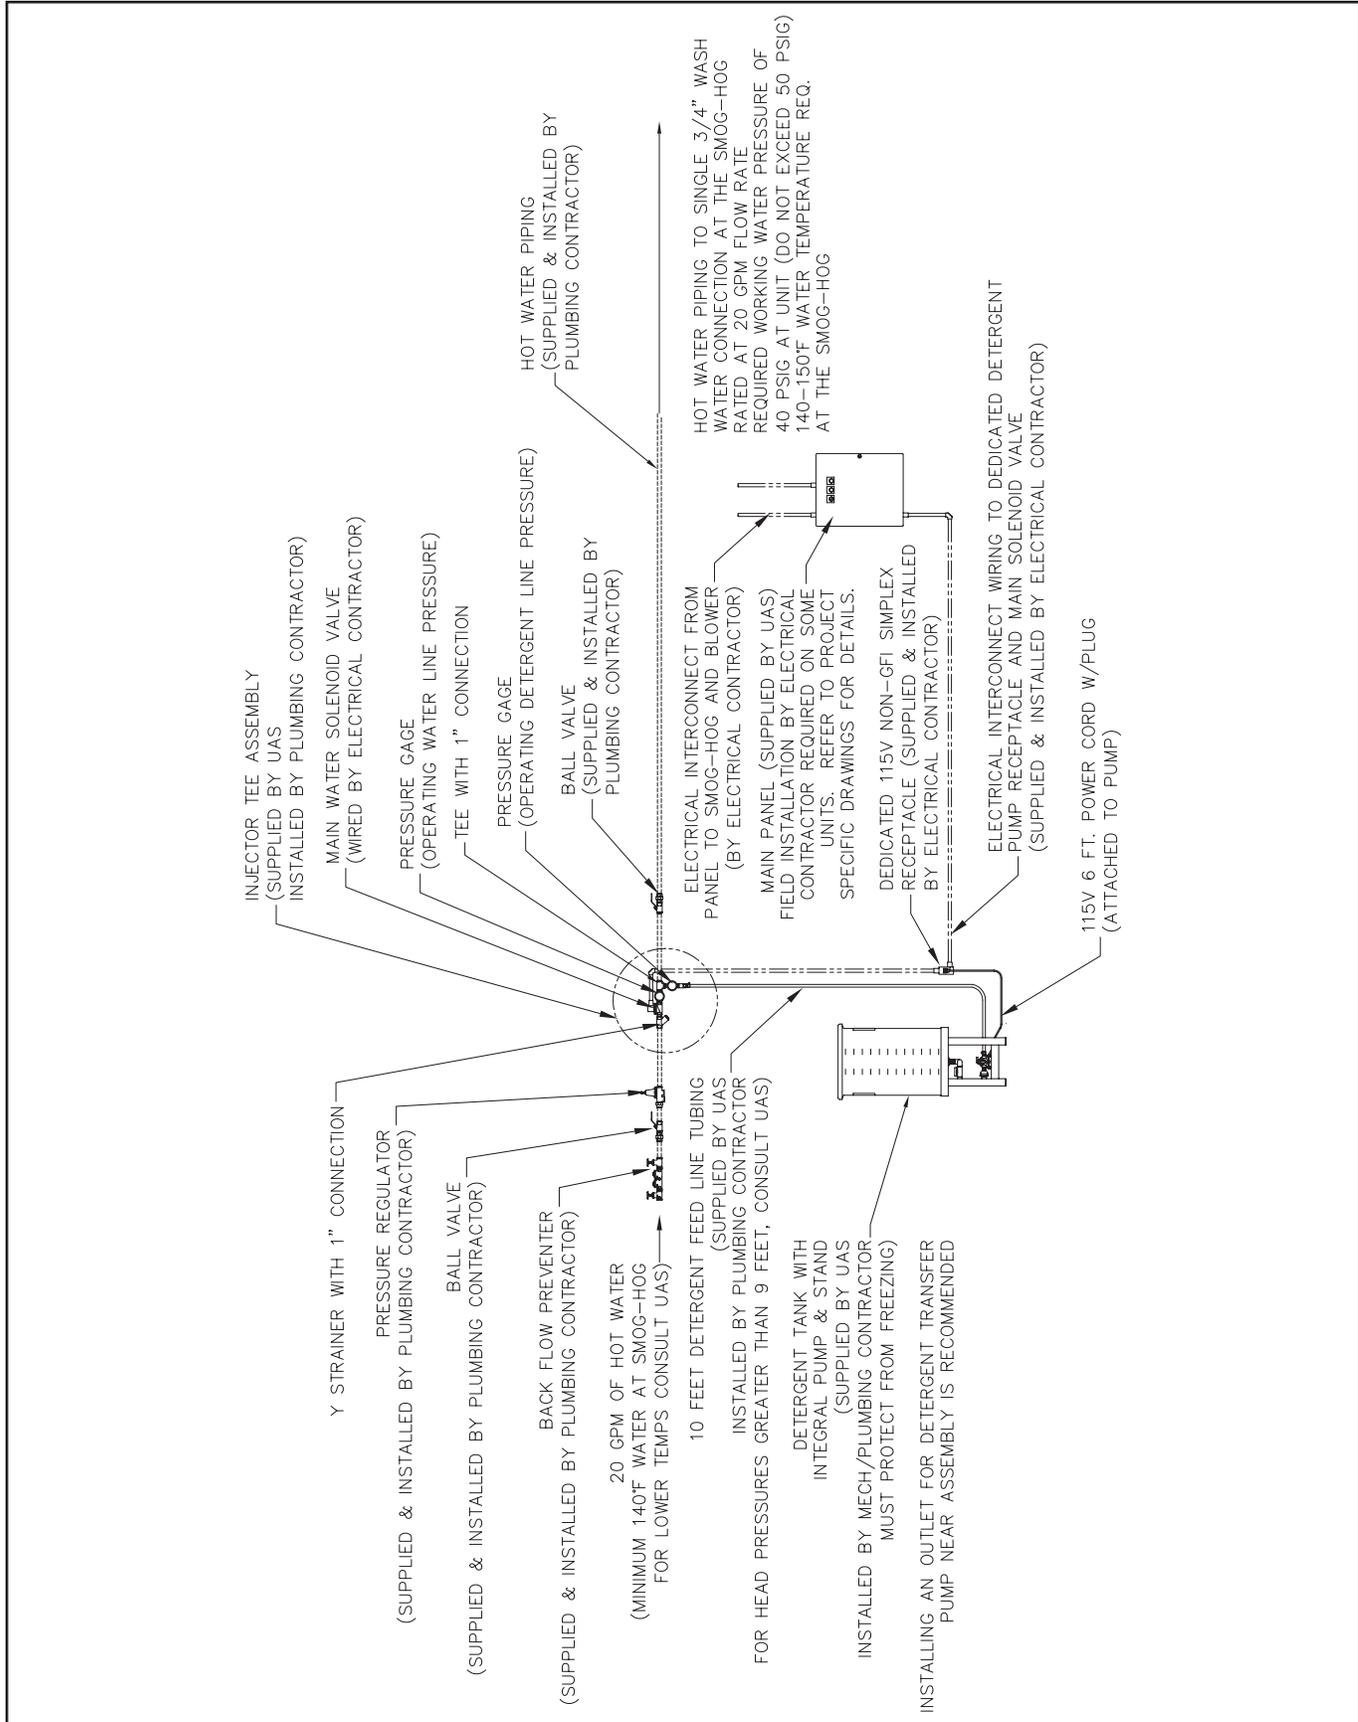

FIGURE 1
- 1). All ball valves or equivalent are open, refer to Figure 1. Shut-off valves can also be located on the backflow preventer.
- b). During the wash mode, which is after the pre-rinse mode, adjust the detergent pump operating pressure with black PVC handle located on top of the detergent pump, refer to Figure 1 for detergent pressure gauge. The detergent operating pressure should be 8 to 10 psig higher than the water operating pressure. For example, if the water operating pressure is 50 psig, the detergent operating pressure should be 58 to 60 psig. The injector tee assembly supplied by UAS, includes gauge to observe the operating pressures.